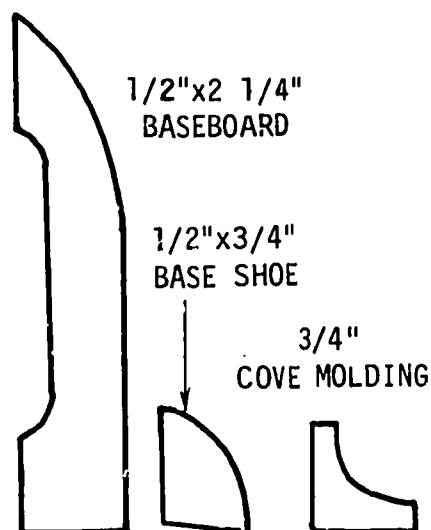
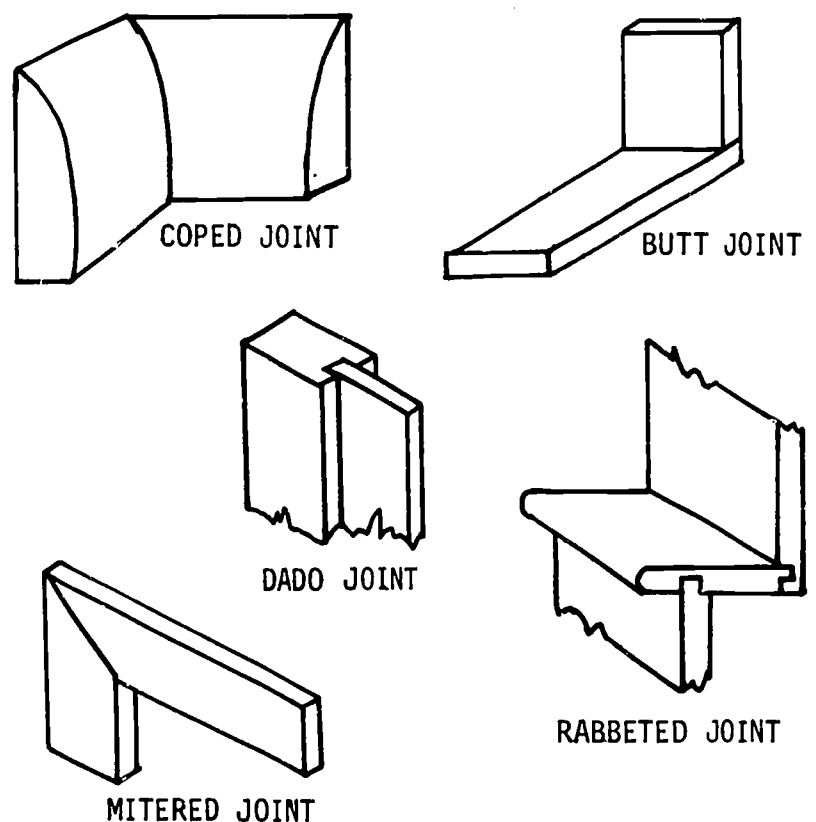

Fig. 123-1. Moldings
Fig. 123-2. Joints and Trim
\* See Fig. 123-1.
1. Explain that various types of joints are used for trim work. The choice depends on the type of material and where it is used. See Fig. 123-1. Show Transparency 123-1, Joints, and discuss the five kinds of joints. See Fig. 123-2.